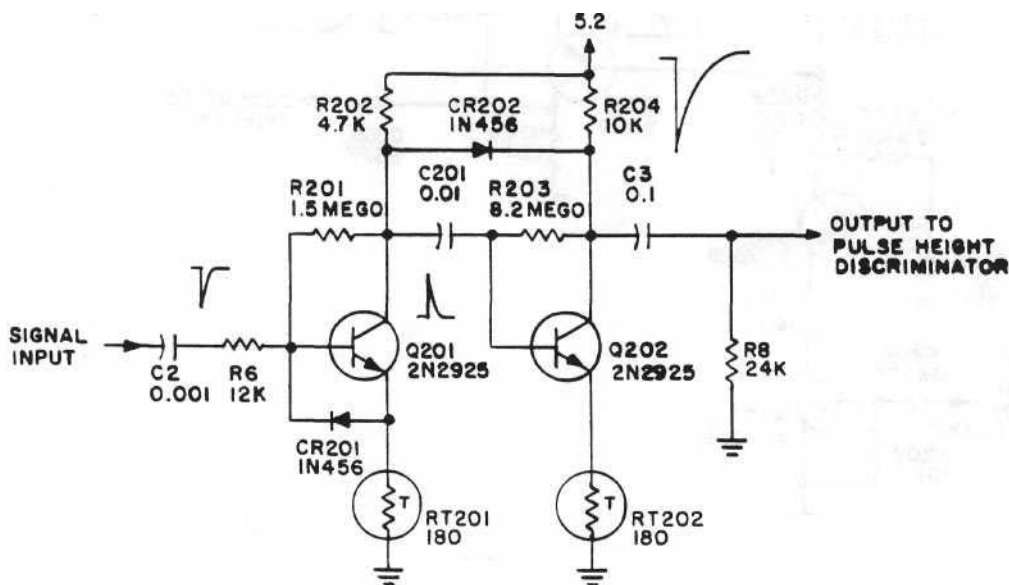

Figure 3-1. Schematic of Pulse Amplifier
(1). Pulse Amplifier. Fig. 3-1.